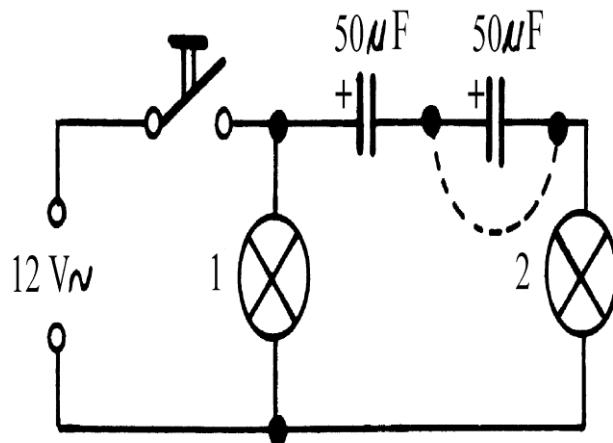

Fig 18 – Capacitors in series
- Wire the circuit on the board as in Fig. 18.